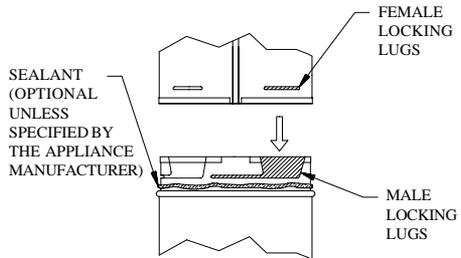

Fig 5
Notes: (1) Twist-lock procedure: Four indentations, located on the female ends of pipes and fittings, are designed to slide straight onto the male ends of adjacent pipes and fittings, by orienting the four pipe indentations so they match and slide into the four entry slots on the male ends. (Fig 5) Push the pipe sections completely together, then twist-lock one section clockwise approximately one-quarter turn, until the two sections are fully locked. The female locking
(2) Horizontal runs of vent must be supported every three feet. Wall Straps are available for this purpose.
(3) Sealant is optional, unless specified by the appliance manufacturer. Should you elect to use sealant, it is only necessary on the outer tube of the GS Pipe Section. Run a 1/8-inch wide bead of sealant around the male end of the outer sleeve, as shown in Figure 5, and twist-lock the pipes or fittings together.